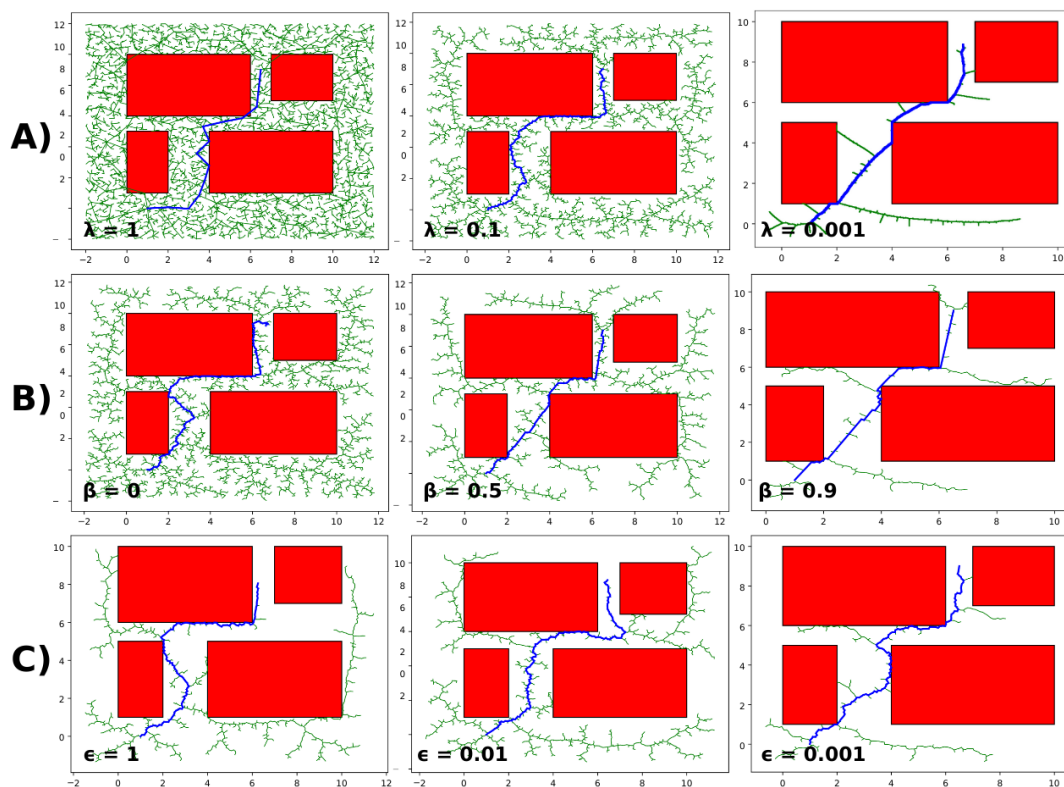

Figure 10: Effect of RRT parameters: (a) varying step size λ , (b) varying goal bias β , (c) varying threshold ϵ .
- Figure 10 summarizes the influence of parameters.